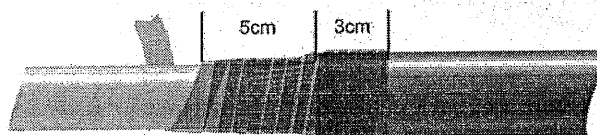

Figure 29.
9. Over wrap back towards the Crimp end of the cable, again stretching the tape and with 50% overlap, leaving 5cm covering the Outer Copper Screen Wires and White XLPE Insulation and 3cm covering the Black PVC Outer Sheath. This should use approx another 50cm of the tape. Again, do not cut the tape. (Figure 29)